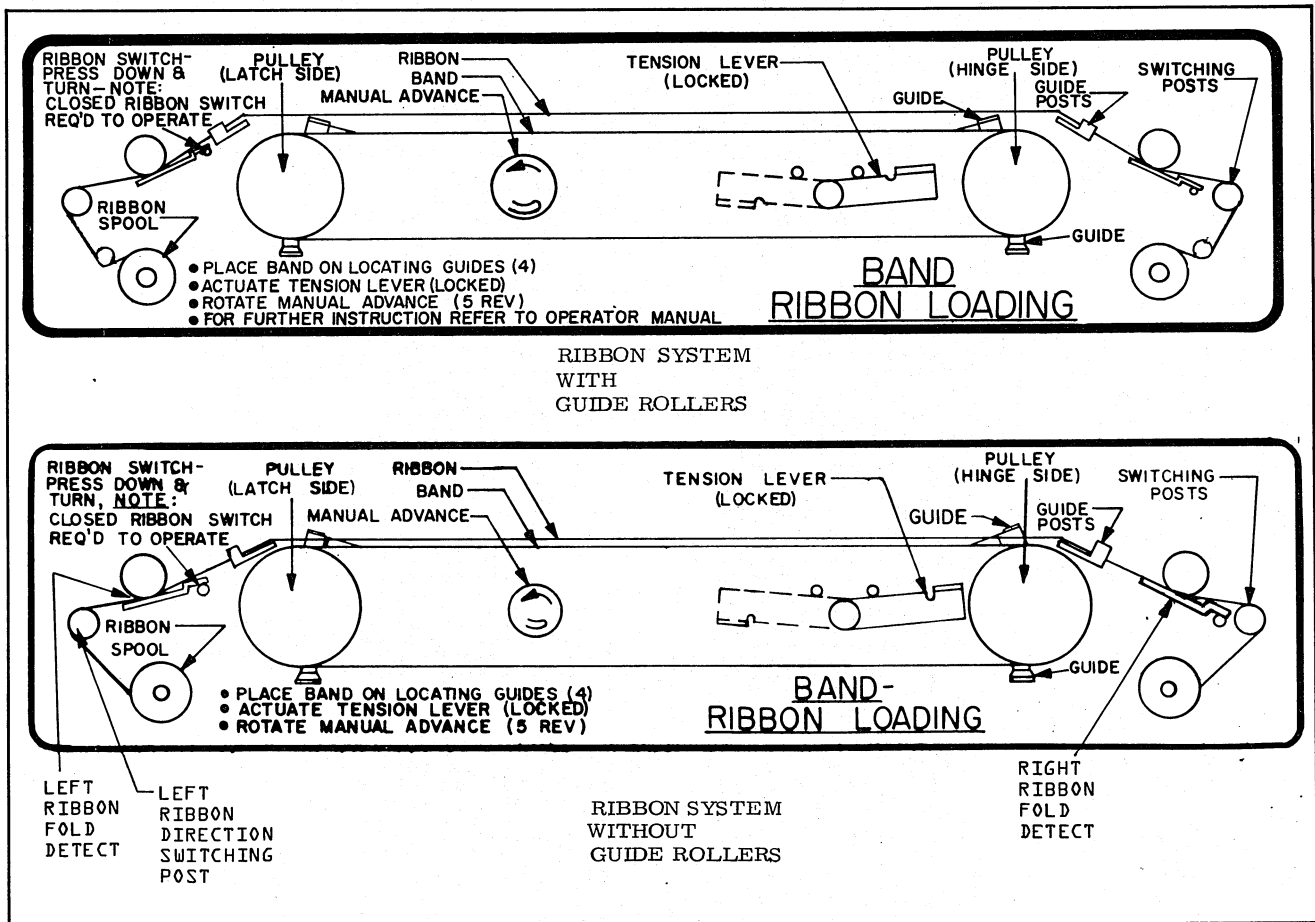

FIGURE 3-7. RIBBON/BAND INSTALLATION
7. Remove any ribbon lint buildup especially around the band sensing transducers (see Figure 3-7).